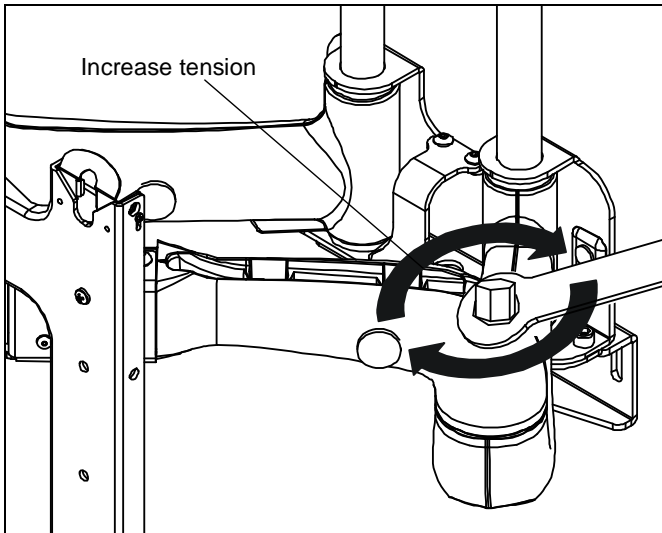
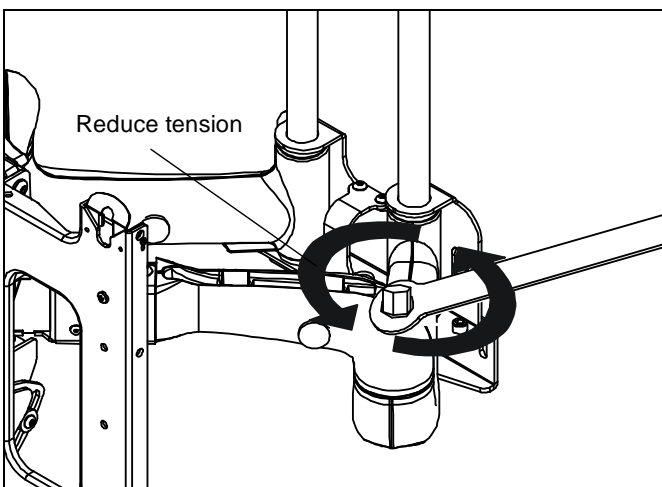

Figure 12
Figure 13
- Use the adjustment wrench (L) provided with the mount, and turn adjustment insert clockwise to increase swing arm tension (See Figure 12) or counterclockwise to reduce swing arm tension. (See Figure 13)